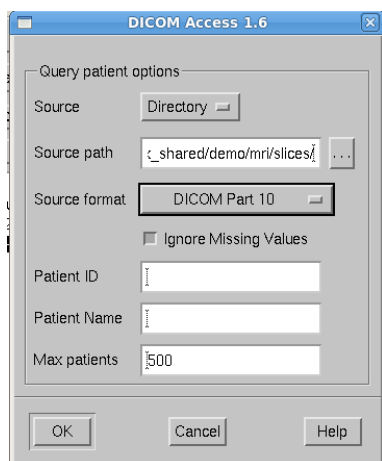

Figure 7: *DicomAccess* parameters.
- If the DICOM slices are not read correctly and you see error messages, you can try to change the settings to 'DICOM Part 10', 'Ignore VR mismatches', 'Ignore missing values', and try again (Figure 7).